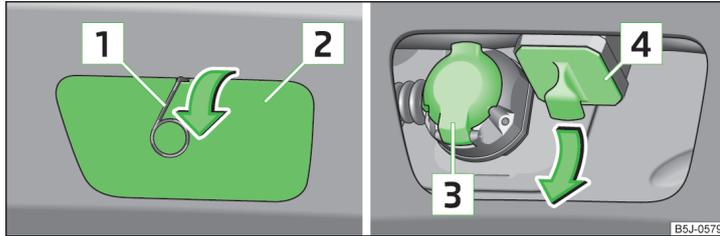
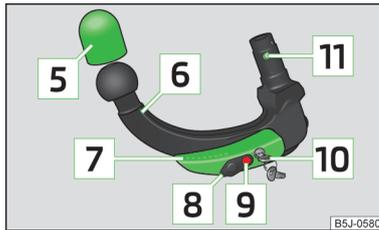

Fig. 117 Remove cover cap: on the rear bumper / for the receiving shaft
Fig. 118
Image description » Fig. 117 and » Fig. 118
- Remove the cover in the rear bumper **[2]** » Fig. 117 on page 121 in the direction of the arrow using the tool for removing the wheel trims.
- Pull off the cover for the mounting recess **[4]** » Fig. 117 on page 121 in the direction of the arrow » **!**
Store cover **[2]** and cover **[4]** » Fig. 117 on page 121 in a suitable place in the luggage compartment after removing them.
- Fit the cover for the mounting recess [4] » Fig. 117 on page 121 in the opposite direction to the arrow.
- Offer up the cap to the rear bumper [2] » Fig. 117 on page 121 aligning it with "check mark" in the lower bumper area.